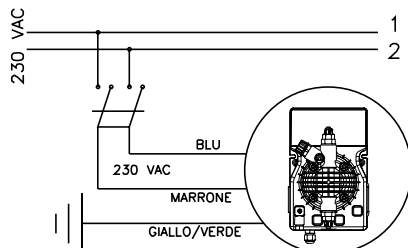

Fig. 4
1. Disconnect the pins from the mains or by means of a two poles switch with 3 mm minimum distance between the contacts. (Fig. 4).
- b. - Carefully observe the regulations in force in the various countries as regards electrical installations (Fig. 4). When the supply cable is devoid of a plug, the equipment should be connected to the supply mains by means of a single-pole circuit breaker having a minimum distance of 3 mm between the contacts. Before accessing any of the electrical parts, make sure that all the supply circuits are open.